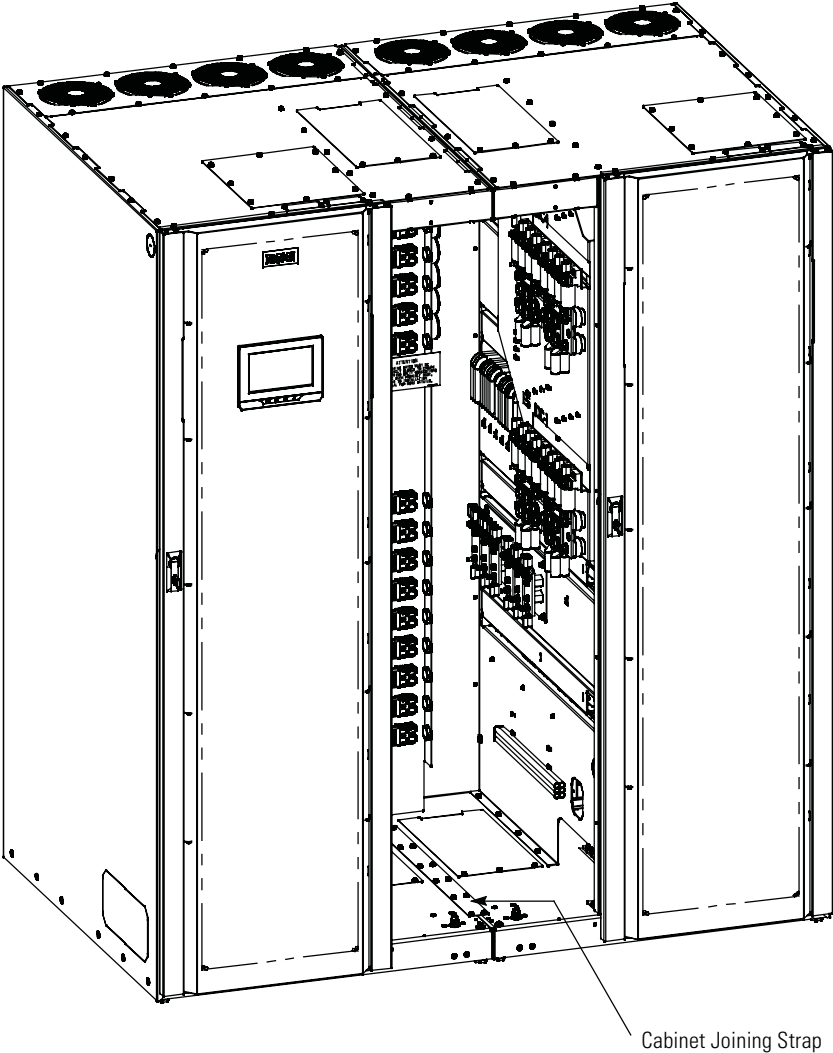

Figure 4-4. Cabinet Joining Strap
2. Position the right side of the left cabinet section adjacent to the left side of the right cabinet section. Verify that the front of the cabinet bases are flush with each other (see Figure 4-4).